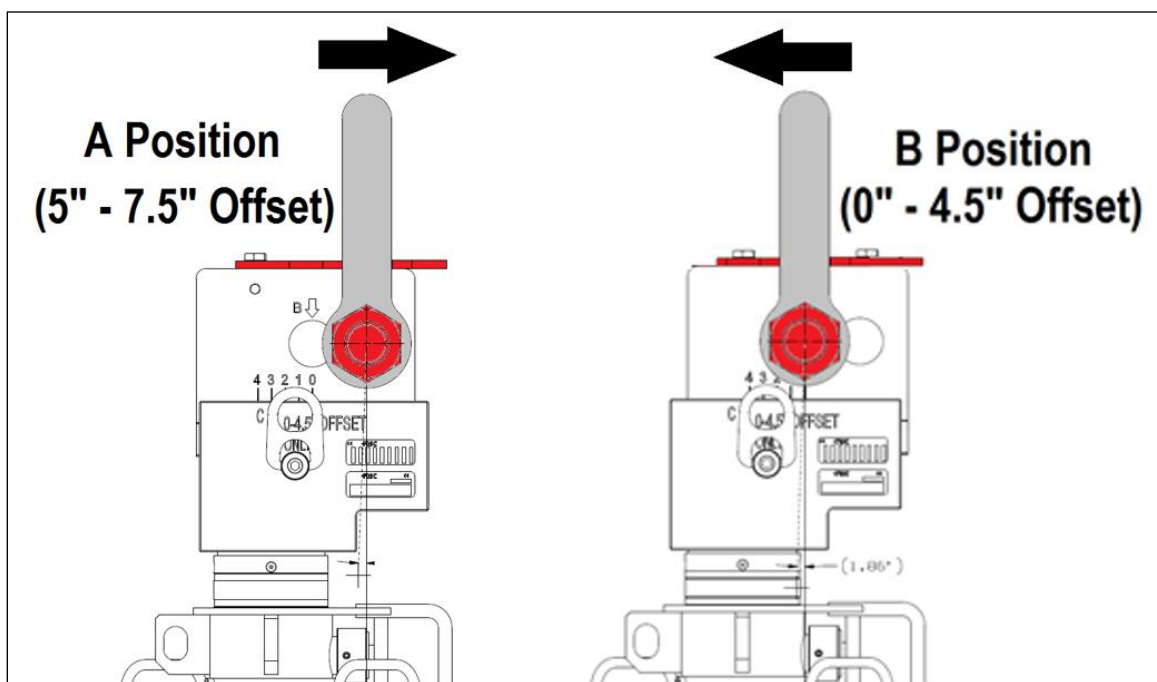

Figure 4: Shackle Position
1. If required, move the 120 Ton Shackle to the correct hole/position (reference Figure 4). Note that the Upper Adapter position may need to be adjusted and the shackle may have to be left off until this is done so that fasteners are not blocked: